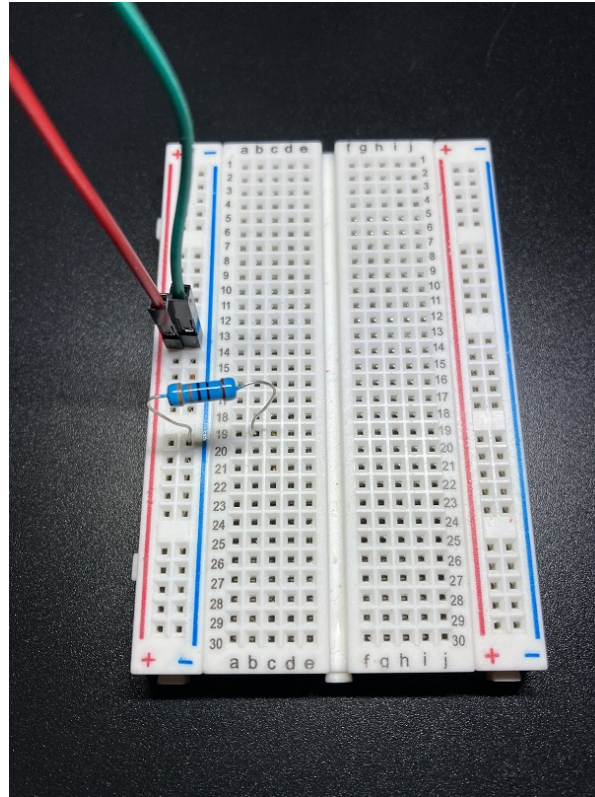

Figure 7: Resistor attached to breadboard.
2. Next setup the resistor on the breadboard. The resistor should be setup connecting the ground bus on the breadboard to an inside row. Keep in consideration you'll need at least one hole for the LED leg to connect in the same row (Figure 7). Resistors are not directionally dependant, so it doesn't matter which end of it is connected to the ground bus and which end is connected to the inside row.